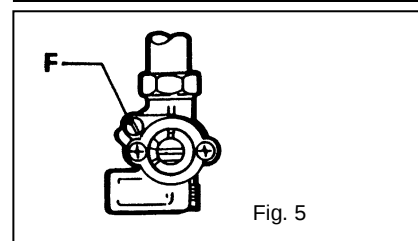

Fig. 5
5.3 Adjusting the minimum (Fig. 5)